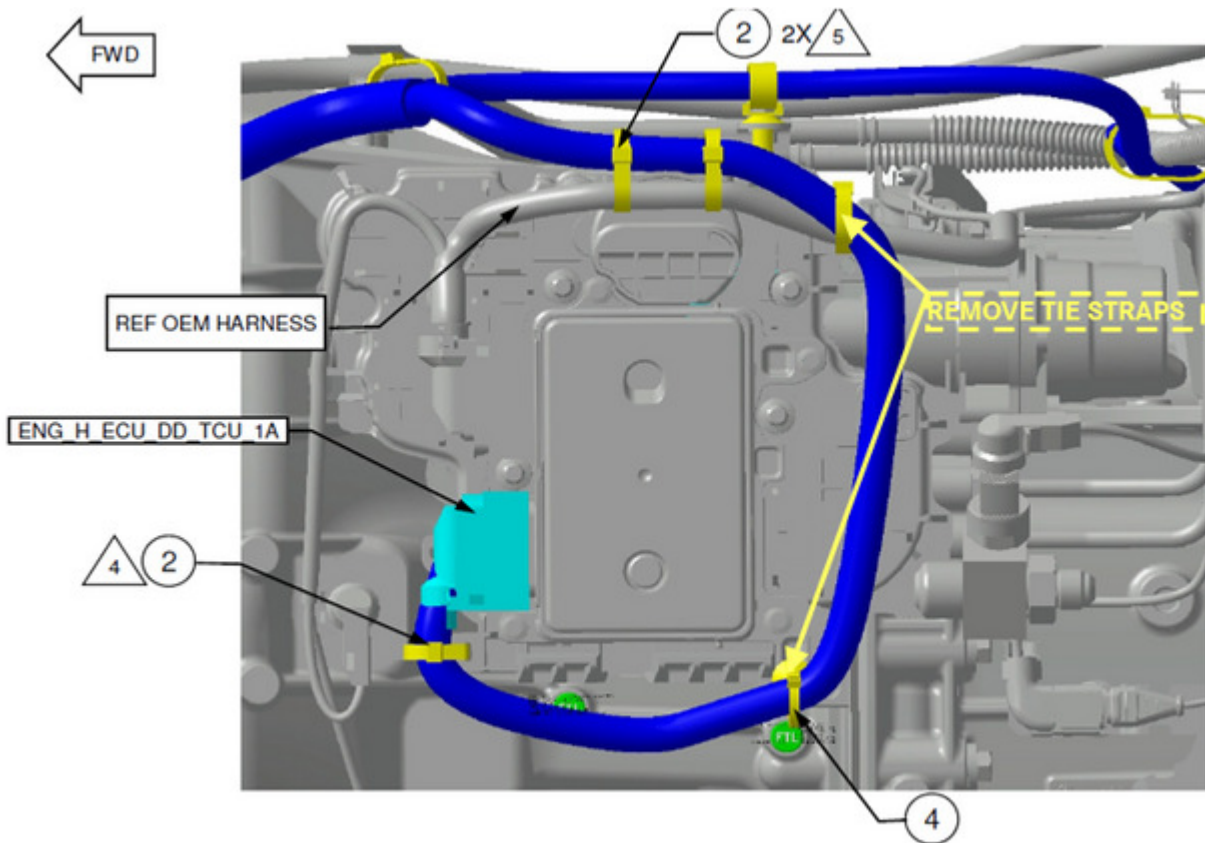

Figure 2: Initial production Transmission Control Harness routing-clipping.
Transmission Control Harness routing and clipping needs to be revised at the TCM area, follow the instructions below and refer to see Figure 2, 3 and 4 to complete Harness routing-clipping.
- Cut and remove tie straps used to attach Transmission Control Harness, items 2 and 4 shown in Figure 2. Inspect Harness for damages caused by rubbing / chaffing and repair as needed, refer to SB 54-290 for Harness repair instructions.